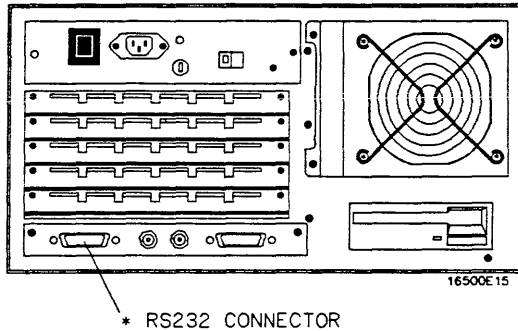

Figure 7-5. HP 16500A Rear Panel
- The HP QuietJet series printers have two banks of mode function switches inside the front cover. Push all the switches down to the "0" position as shown in figure 7-5.